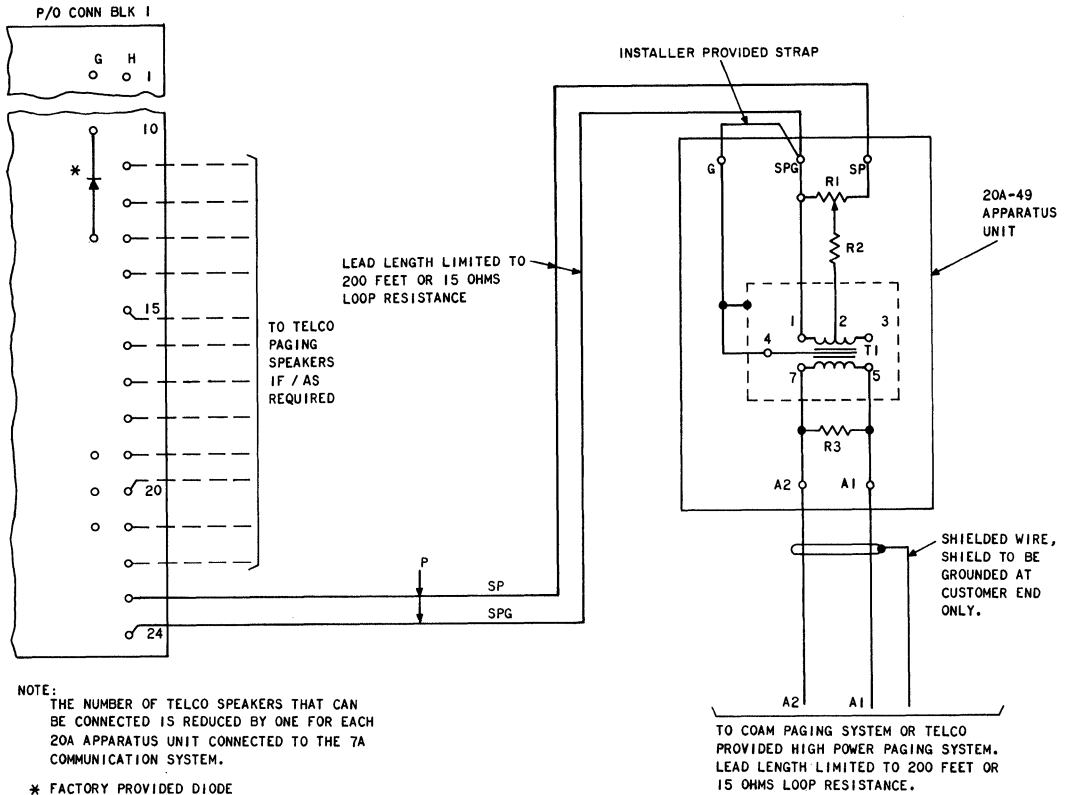

Fig. 37—20A-49 Apparatus Unit, Connections
**4.53** A COAM paging system or a separate telephone company-provided paging system is connected to the 7A Communication System through a 20A-49 apparatus unit (see Fig. 37). The 20A-49 apparatus unit is mounted externally to the KSU.
- (1) Remove cover from the 20A-49 apparatus unit.
- (2) Mount the 20A-49 apparatus unit within 200 feet of KSU (wherever customer desires).
- (3) Connect the apparatus unit to the KSU as shown in Fig. 37. Wiring should be run separately and not be a part of the voice cable.
- (4) Have customer connect paging system to apparatus unit, using shielded wire, as shown in Fig. 37.
- (5) Replace cover on apparatus unit.
- (1) Turn potentiometer to full counterclockwise position
- (2) Select an idle intercom path and dial 2 (paging code)
- (3) Using normal voice level, make test announcement while turning potentiometer clockwise until suitable voice level for COAM equipment is reached
**The 20A-49 apparatus unit provides a nominal 300-ohm output to a customer-owned paging system (Fig. 37). It does not provide a means to activate the customer's equipment; therefore, the customer's equipment must be in the ON mode at all times.**
- (4) Disconnect call.